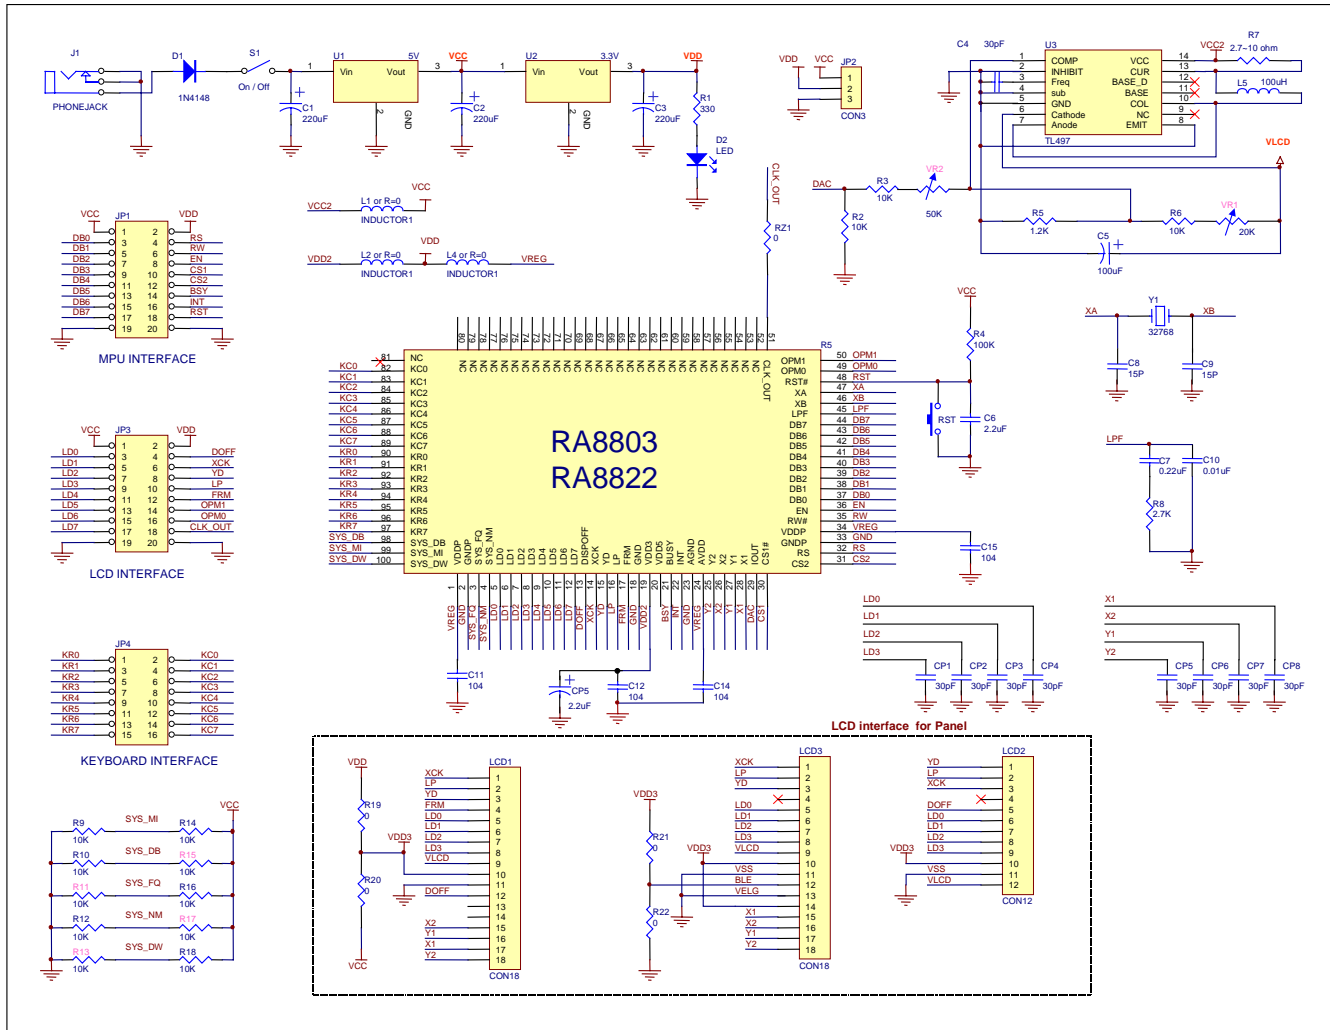
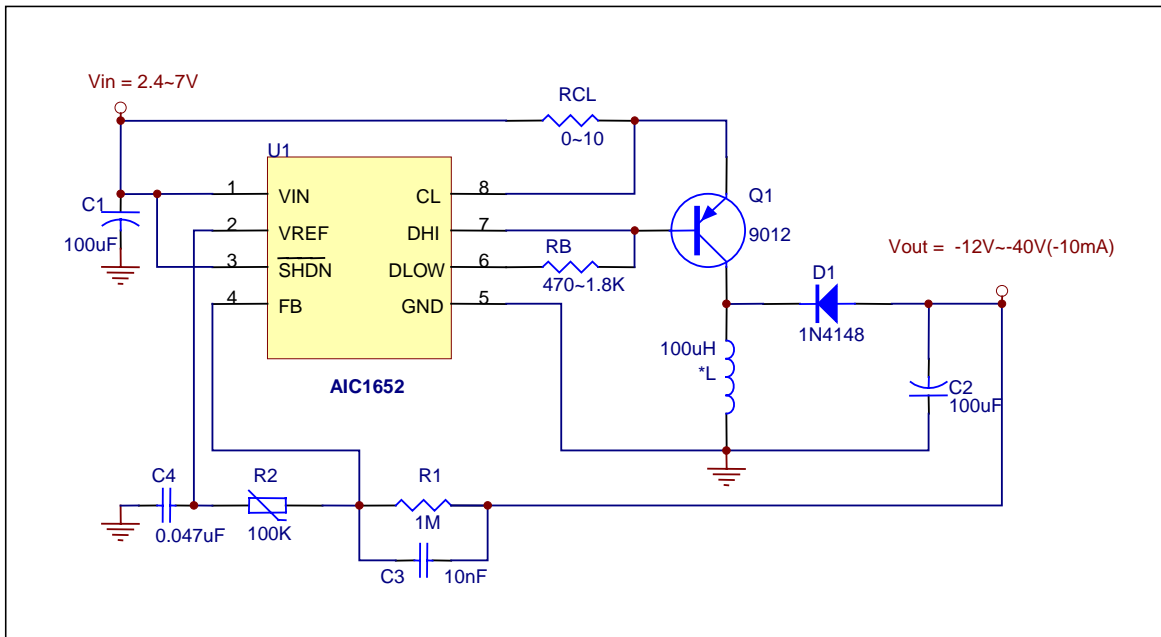
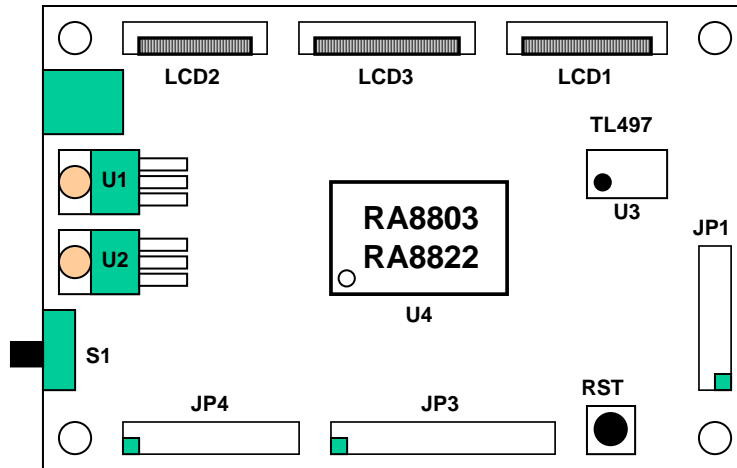
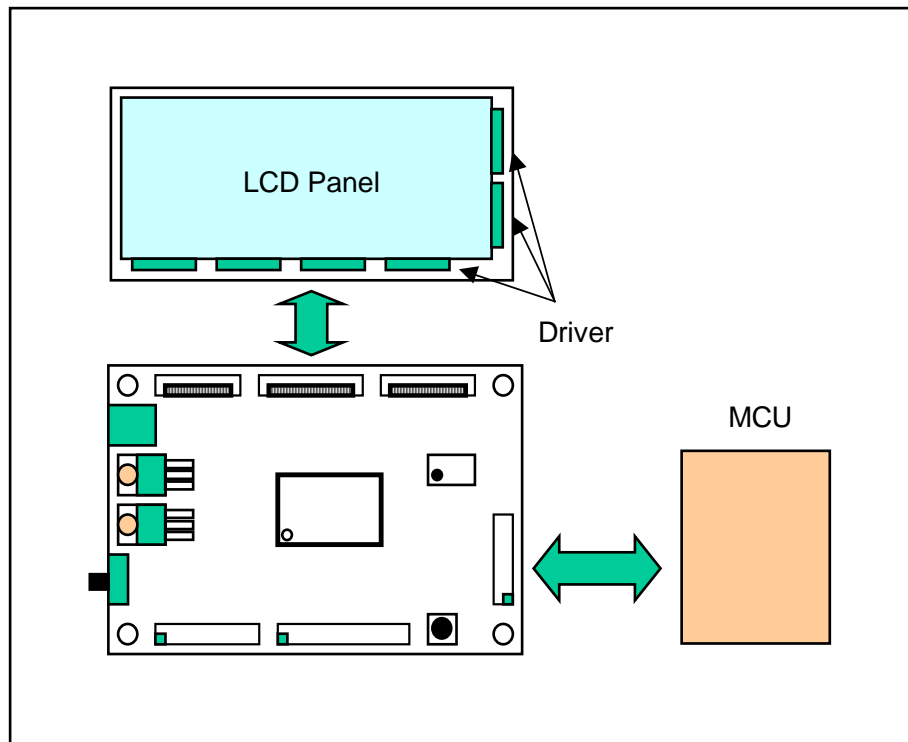

Figure B-1 : RA8803/8822 Application Circuit
Figure B-2 : Negative DC to DC Example Circuit
Figure C-1 : RA8803/8822 Control Board
Figure C-2 : Application of Control Board
3. The example of VLCD in Figure B-1 is positive. If your Panel/Driver need negative VLCD then you have to use another DC to DC circuit. The Figure B-2 is an example for negative DC to DC circuit.
7. In Figure B-1, the power of RA8803/8822 is 3.3V(VREG and VDD2 are connect to VDD by L2 and L4, VDD is 3.3V).
RAiO provide the RA8803/8822 control board, Gerber File and circuit for customer to verify the RA8803/8822, MPU and LCM interface. The Figure C-1 is the outline of RA8803/8822 control board. The schematic is same as Figure B-1. Customer could use the “JP1” to connect with MPU, and connect Panel(LCD module) to JP3, LCD1, LCD2 or LCD3 which LCD driver interface. The JP4 provides Key-Scan interface. Pls refer the Figure C-2.